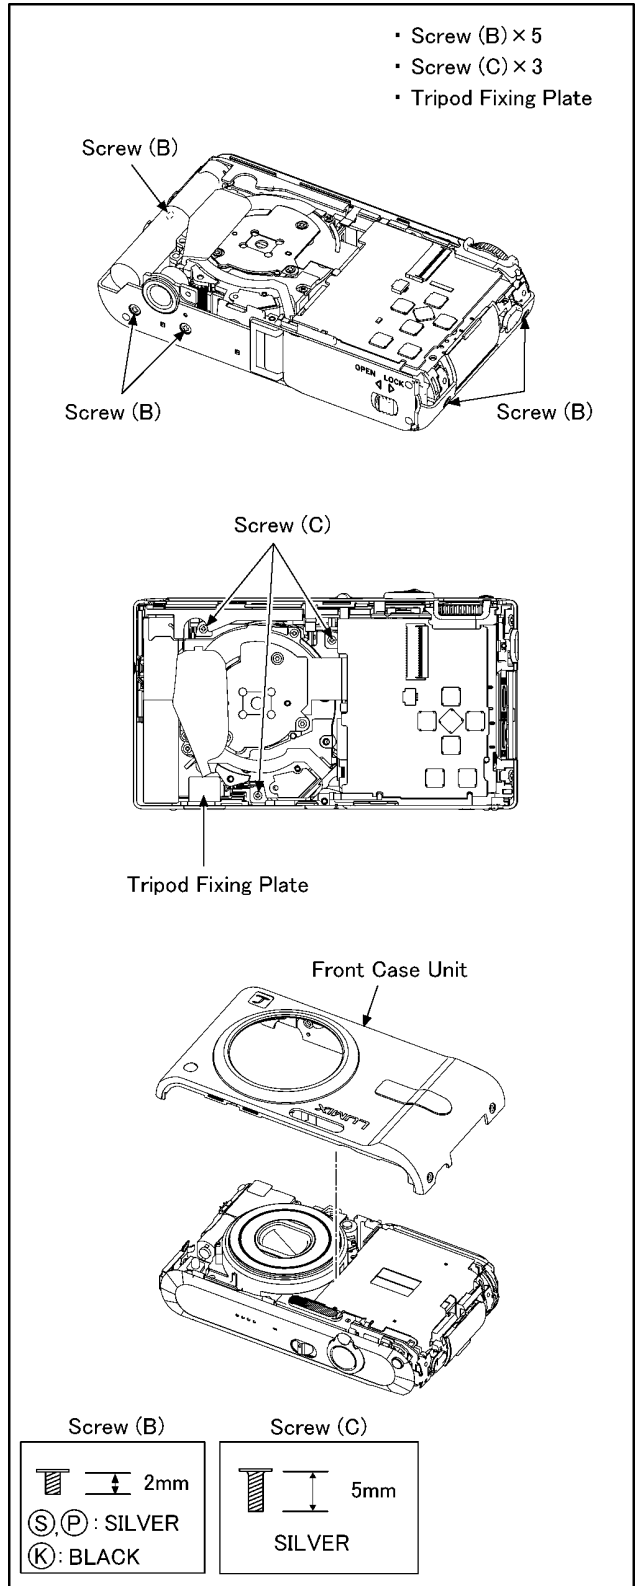

Fig. D4
| 3   | Front Case Unit                     | Fig. D4            | 5 Screws (B)                                   |